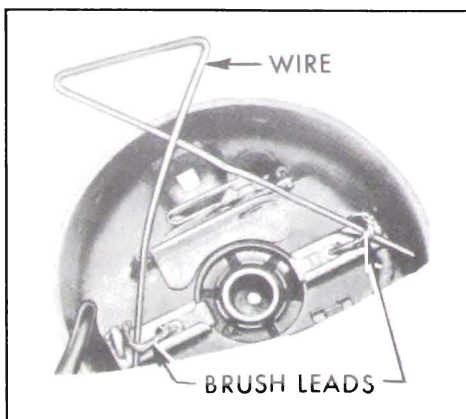

Figure 10-119—Holding Brush Leads
4. To separate armature from case while still retaining the brush-springs and brushes in place, fashion a spring similar to that shown in Figure 10-119 and insert behind the brush leads as shown.